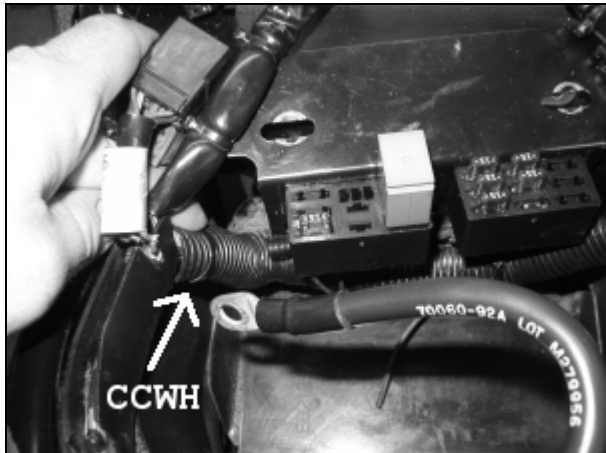

Figure 1. Fuse Block Bracket
2. See Figure 1. Remove bolts in fuse block bracket. Move fuse block bracket forward on right side of motorcycle. Feed 10-place female Packard connector of the cruise control wire harness (CCWH) down through hole beside main wire harness to the main circuit breaker and the turn signal module. Align top of wire conduit on CCWH to top of wire conduit on main harness (routed to the